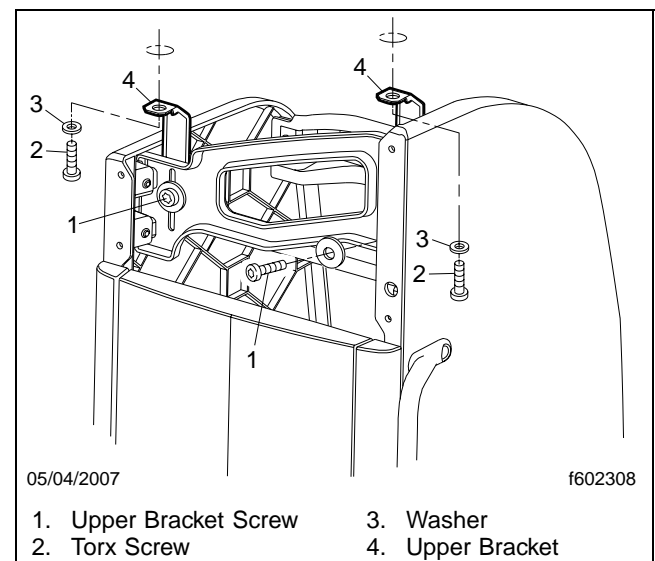

Fig. 18, Upper Cabinet Fasteners
11. Remove the two Torx screws and washers that attach the brackets at the top of the cabinet to the sleeper roof. See **Fig. 18**
4. Slide up the two brackets at the top of the cabinet, and using the screws and washers, attach them to the sleeper roof. See **Fig. 18**.